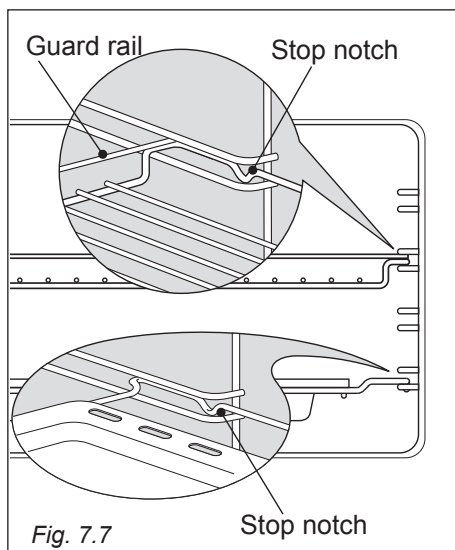

Fig. 7.7
- Slide the rack into the runners (fig. 7.7).
The oven tray must be correctly placed on its wire support then inserted into the side runners (figs. 7.7, 7.8).